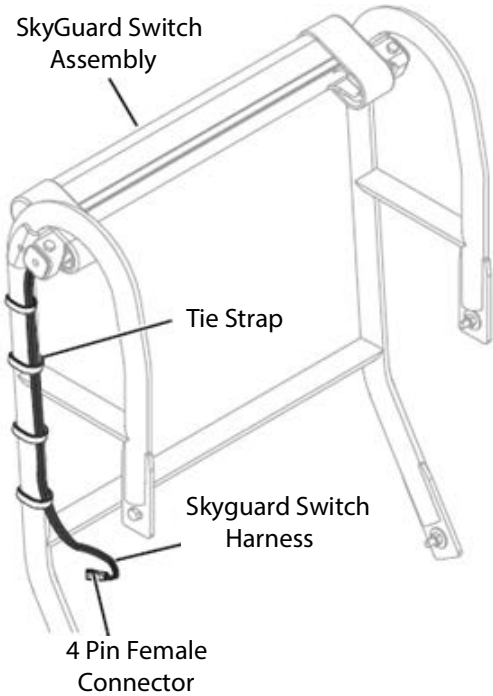

Figure 4-28.
9. Route the SkyGuard switch harness along SkyGuard support bracket (right side) and under the platform control box. Secure the harness using tie straps. See Figure 4-28.